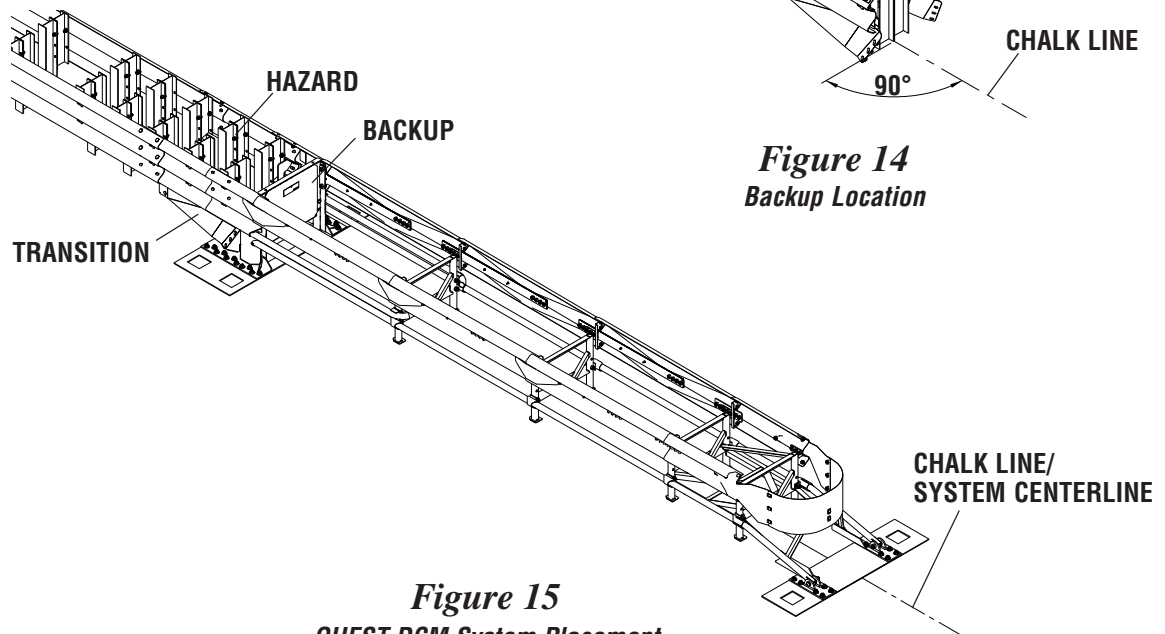

Figure 15
1. Lift the system into place at the marked location. If required, attach the system to the hazard/ barrier via transition panel(s), see Figure 15.